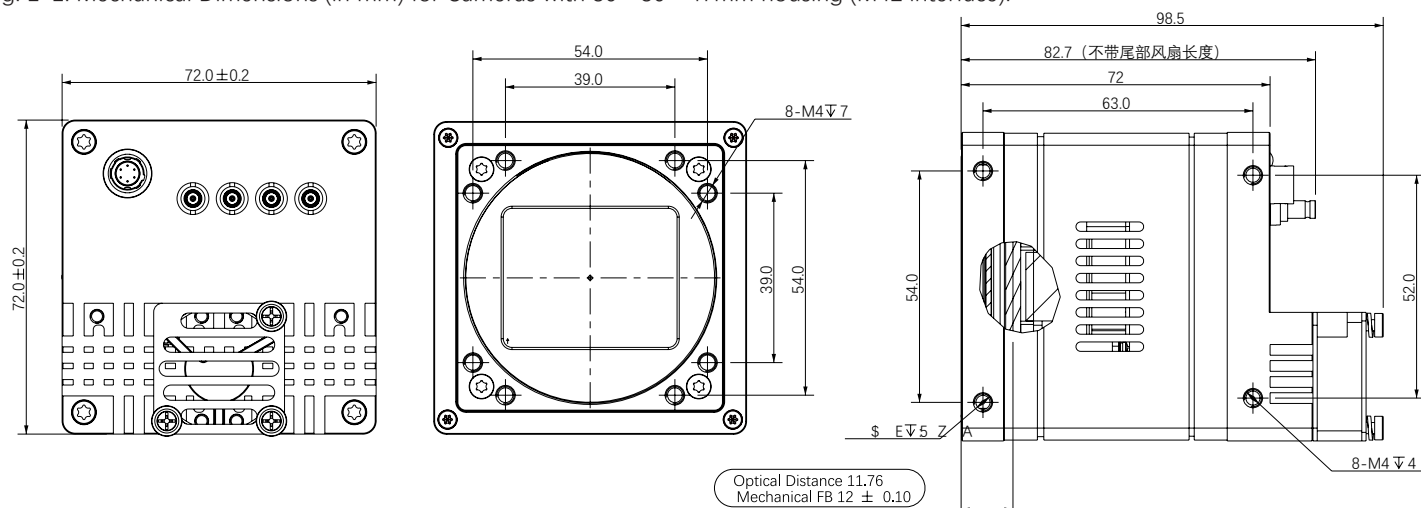

Fig. 1-2: Mechanical Dimensions (in mm) for Cameras with 72 \* 72 \* 72mm housing (M58 interface).
- Fig. 1-2: Mechanical Dimensions (in mm) for Cameras with  $72 \times 72 \times 72$ mm housing (M58 interface).